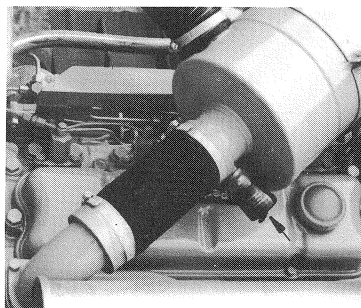

Fig. 51
- Before the filter cartridge is mounted, check the seals for damage and press in the releasing button of the vacuum indicator (Fig. 51/arrow); the red "service field" becomes transparent.